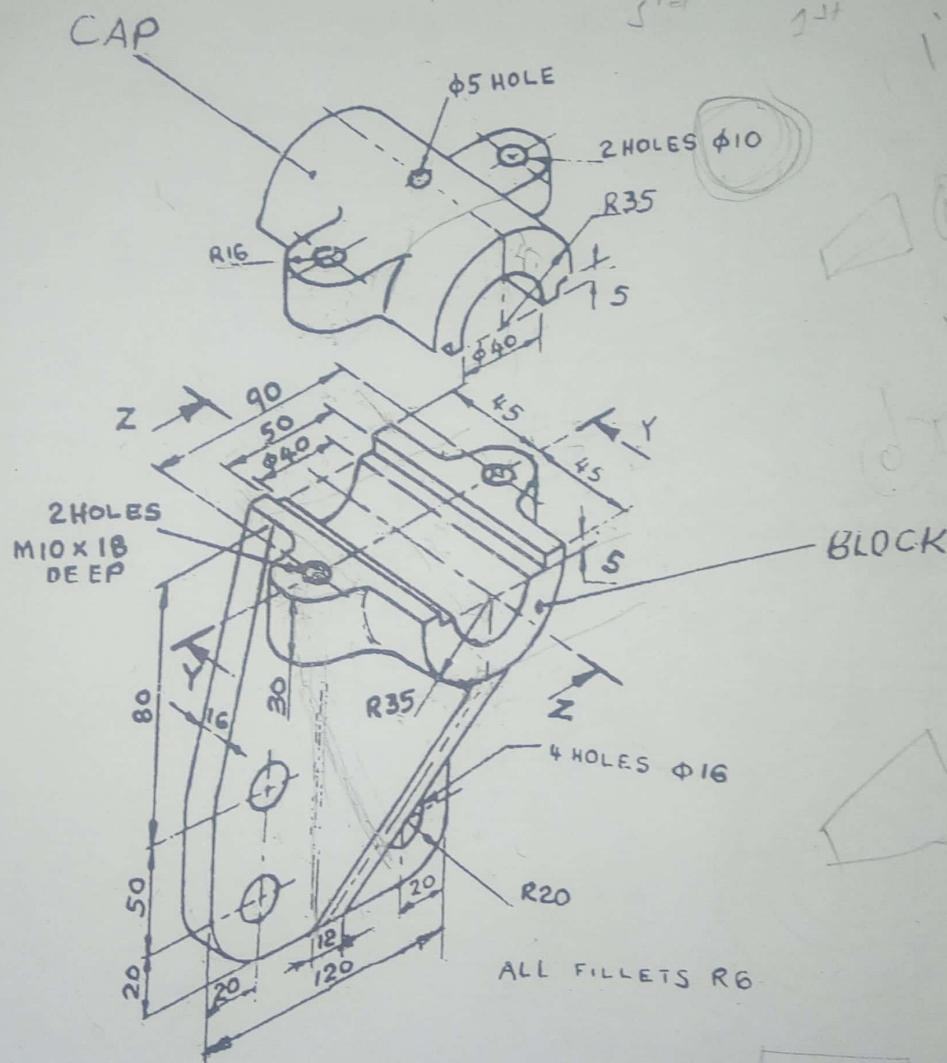

Figure 24
3. Draw the following views of the assembled parts shown in Figure 24 adding studs, hexagonal nuts,